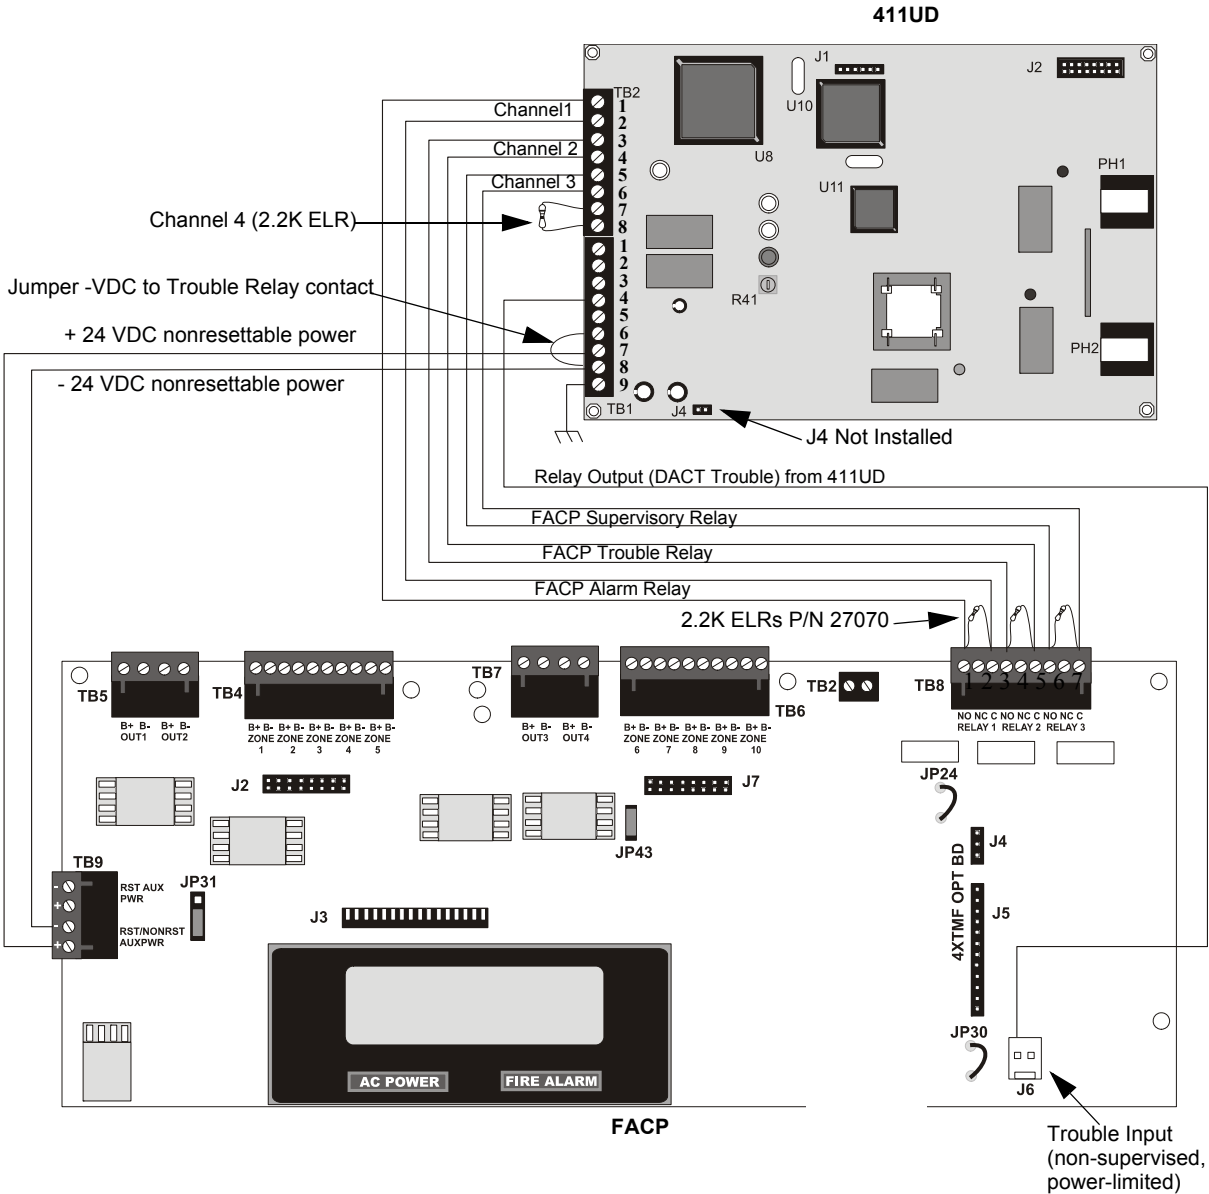

Figure B.1 GF505/GF510 FACP Connection to 411UD
411UD may be installed as illustrated in Figure B.1, “GF505/GF510 FACP Connection to 411UD,” on page 109.
5. Any zone of the 411UD can be wired to function as alarm, trouble or supervisory. In Figure B.1 on page 109, Channel 1/Zone 1 is wired to the control panel's alarm relay, Channel 2/Zone 2 is wired to the control panel's trouble relay and Channel 3/Zone 3 is wired to the control panel's supervisory relay